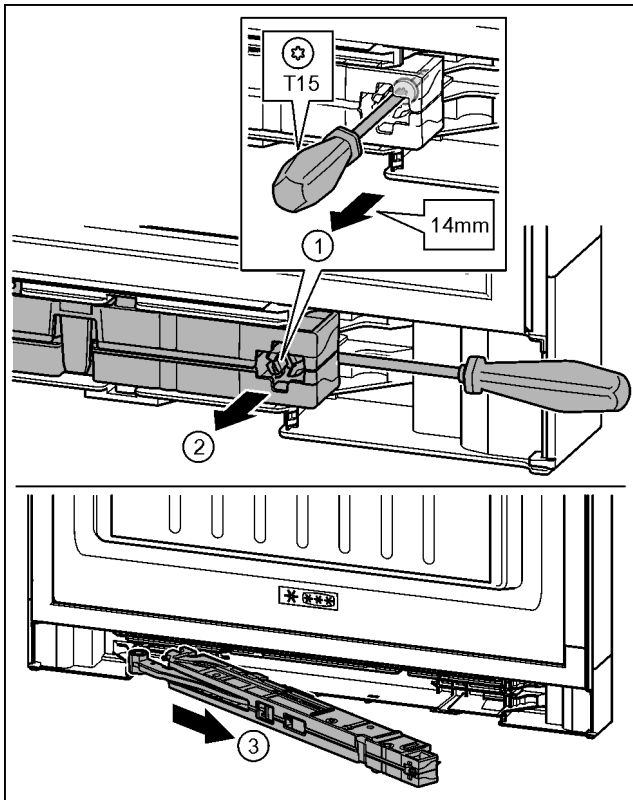

Fig. 21
- ▶ Undo the screw on the soft stop mechanism about 14 mm with a T15 screwdriver. Fig. 21 (1)
- ▶ Insert the screwdriver on the handle side behind the soft stop mechanism. Turn the unit forwards. Fig. 21 (2)
- ▶ Remove the unit. Fig. 21 (3)